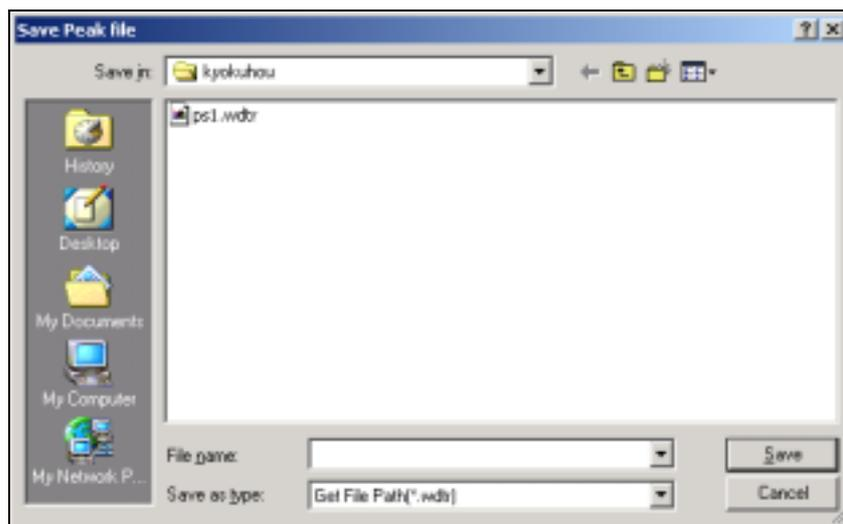

Figure 3-7. "Save Peak File" dialog box
4. When the input ends, < OK > button is clicked. The dialog box in Figure 3-7 is displayed, and the created peak table file is saved. The extension of the peak table file is ".wdtr".